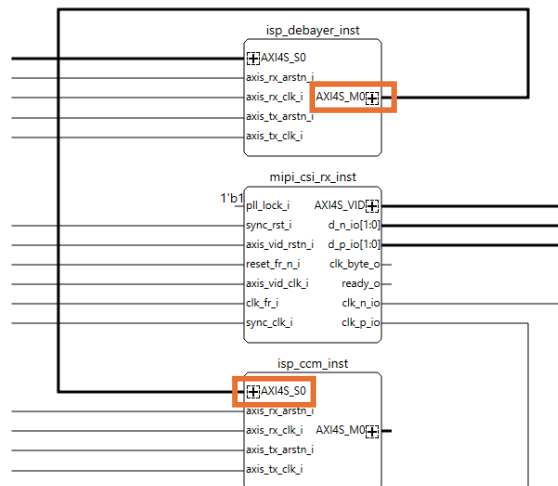

Figure 7.11. Lattice Propel Builder Connection Update for UVSI
5. The unified video streaming data width is updated, resulting in the existing UVSI connections to be disconnected. Reconnect isp_ccm_inst AXI4S_S0 to isp_debayer_inst AXI4S_M0 as shown in Figure 7.11.